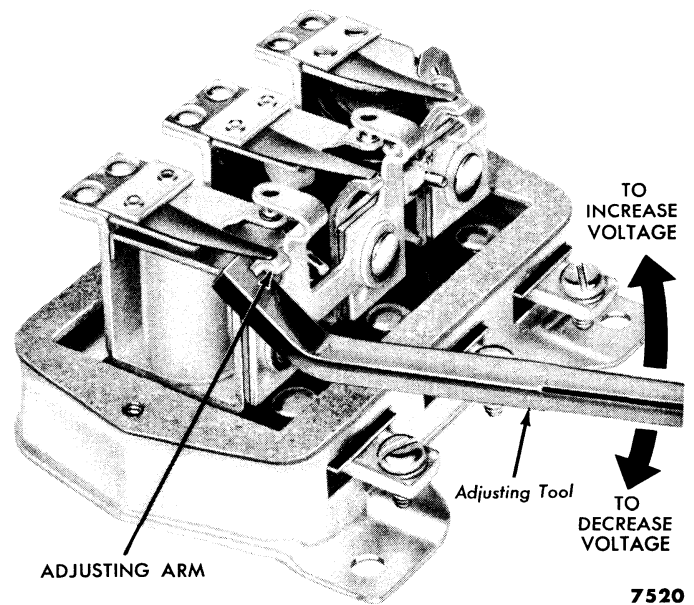

Fig. 30—Voltage Limit Adjustment
(2) **ADJUST VOLTAGE LIMIT.** Make a regulator voltage setting test with the cover on. If the regulator voltage is not within the limits as shown in the table, for the ambient temperature involved, compute the difference as a positive or negative correction. Remove the regulator cover and make a new regulator voltage limit test. Adjust the new setting either up or down by the amount of the correction just computed. If the voltage is less than that specified, increase the spring tension by bending the adjusting arm upward (fig. 30). To decrease the voltage, bend the adjusting arm downward. Check the voltage setting with the regulator cover